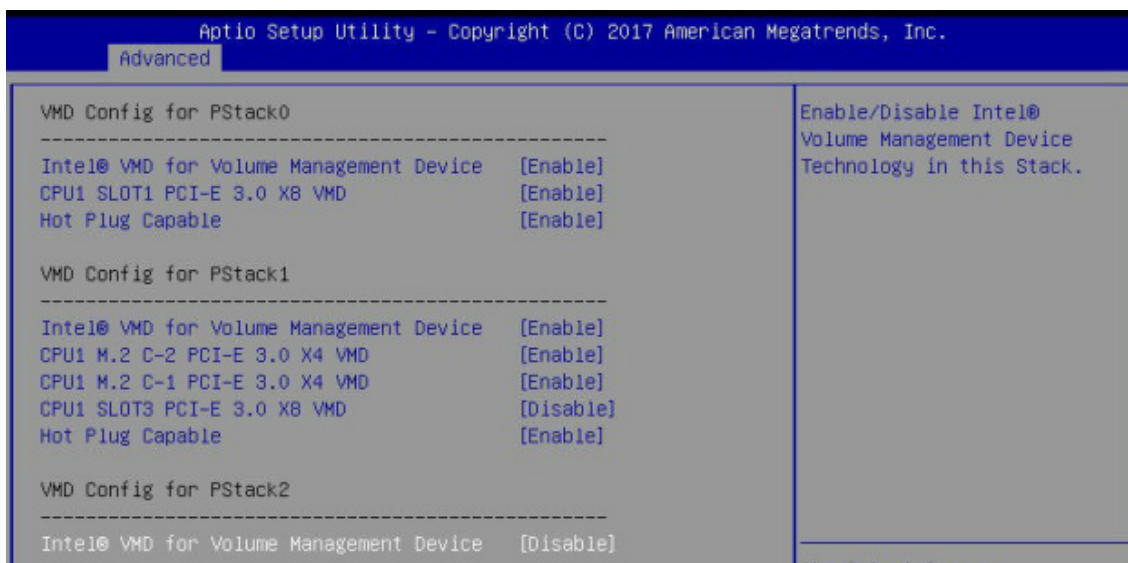
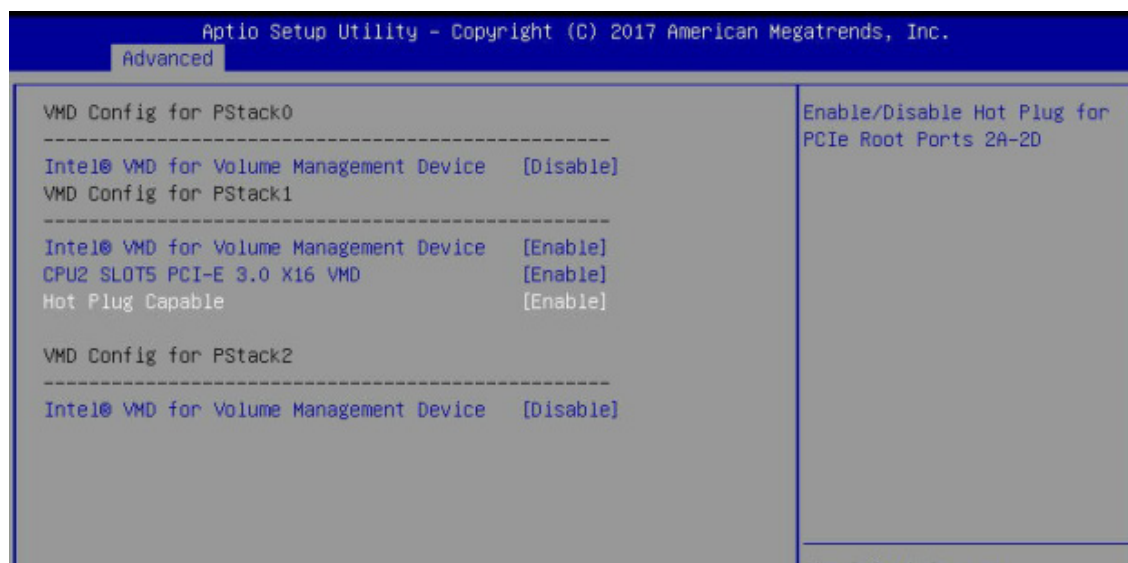

Figure 6-11. BIOS, Enabling CPU1 Example
Figure 6-12. BIOS, Enabling CPU2 Example
5. Repeat steps 3 and 4 for each PStack# on each CPU to be enabled or disabled. In this example, we enabled CPU1 Slot1 (Figure 6-11) and CPU2 Slot5 (Figure 6-12) (four U.2 form factor SSDs), as well as CPU1 M.2 C-1 and CPU1 M2. C-2 (two M.2 form factor SSDs)